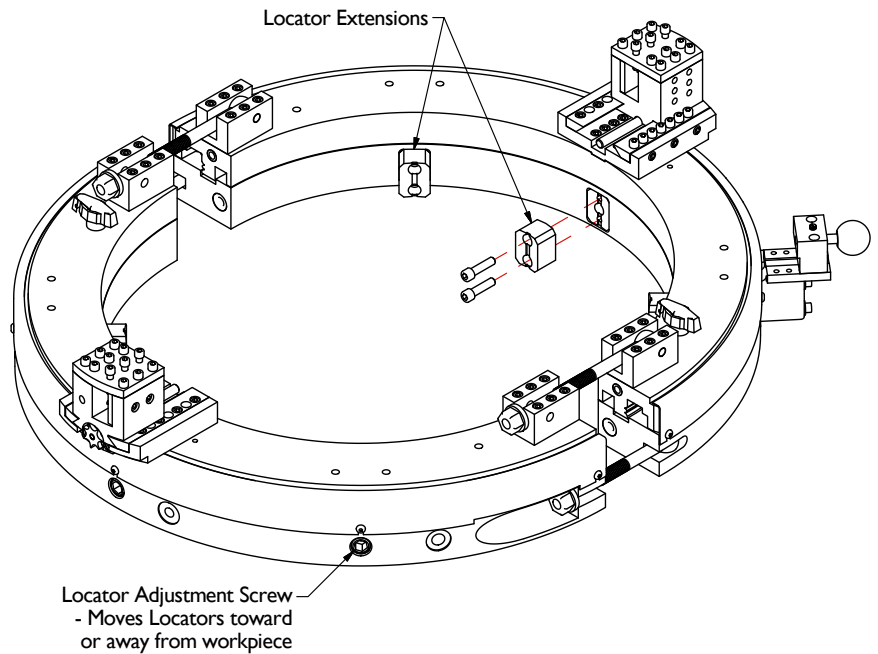

Figure 3 - Install Locators
3. Determine the pipe or workpiece outside diameter. Select the size and combination of locator extensions required to fit around the diameter of the workpiece. Locator adjustment is done by turning the set screws on the outside of the clamshell housing. Back the locators out slightly so that they will clear the workpiece diameter when the clamshell is placed around the workpiece. See Figure 3.